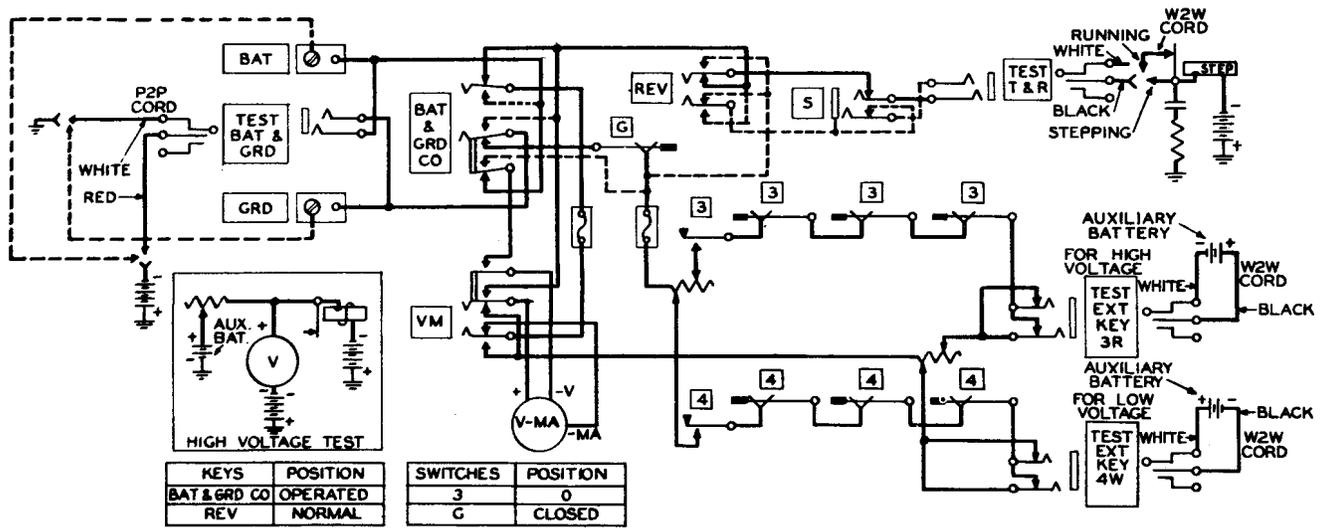
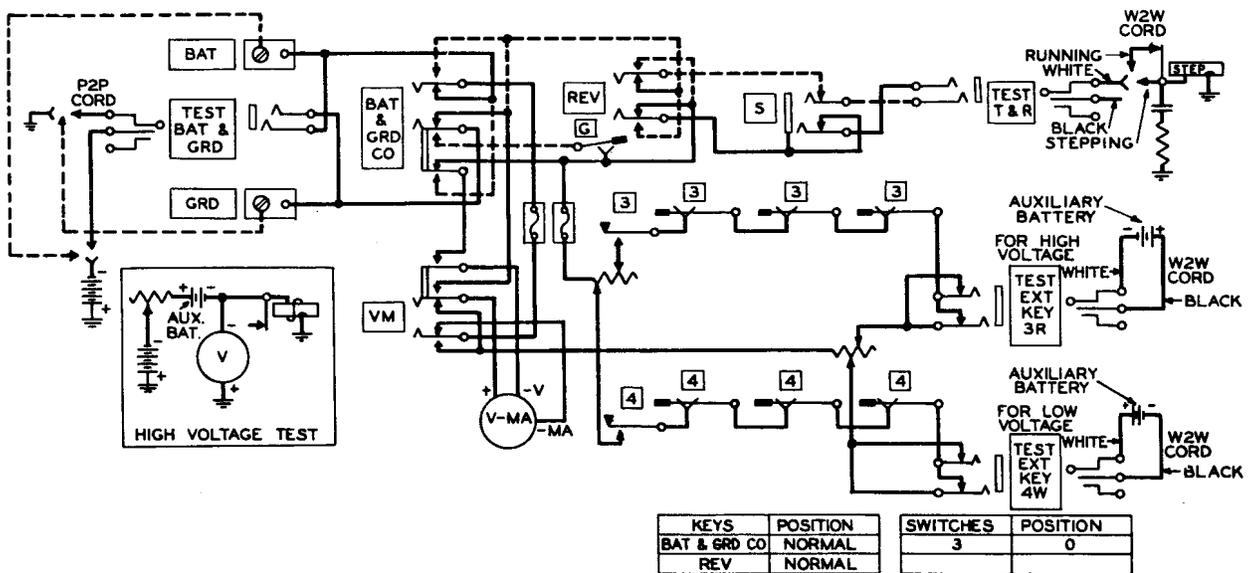

Fig. 1 - G/V Preparation — Using No. 35D Test Set
Fig. 2 - B/V Preparation — Using No. 35D Test Set
3.01 *Connection of Central Office Battery and Ground:* Connect central office battery and ground to the test set shown in Fig. 1 for G/V preparation, Fig. 2 for B/V preparation or
For G/V preparation (See Fig. 1) — connect the black (ring) conductor to the interrupter spring wired to the magnet.
For B/V preparation (See Fig. 2) — connect the white (tip) conductor to the interrupter spring wired to the magnet.
For G/V and F/V preparation (Figs. 1 and 3) — connect the black (ring) conductor to the interrupter spring that is not wired to the magnet.
For B/V preparation (Fig. 2) — connect the white (tip) conductor to the interrupter spring that is not wired to the magnet.
For G/V preparation (Fig. 1) — operate the "G" knife switch to "GRD" and the BAT & GRD CO Key.
For B/V and F/V preparation (Figs. 2 and 3) — do not operate any key or switch at this time.